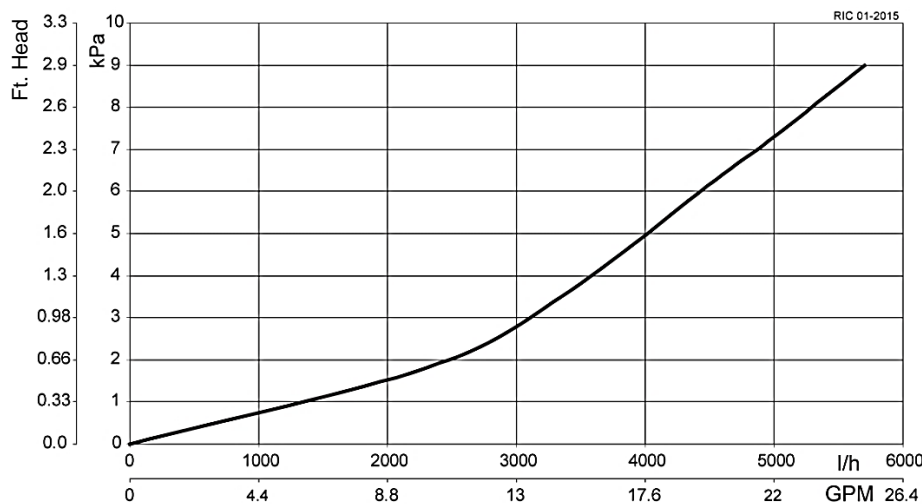
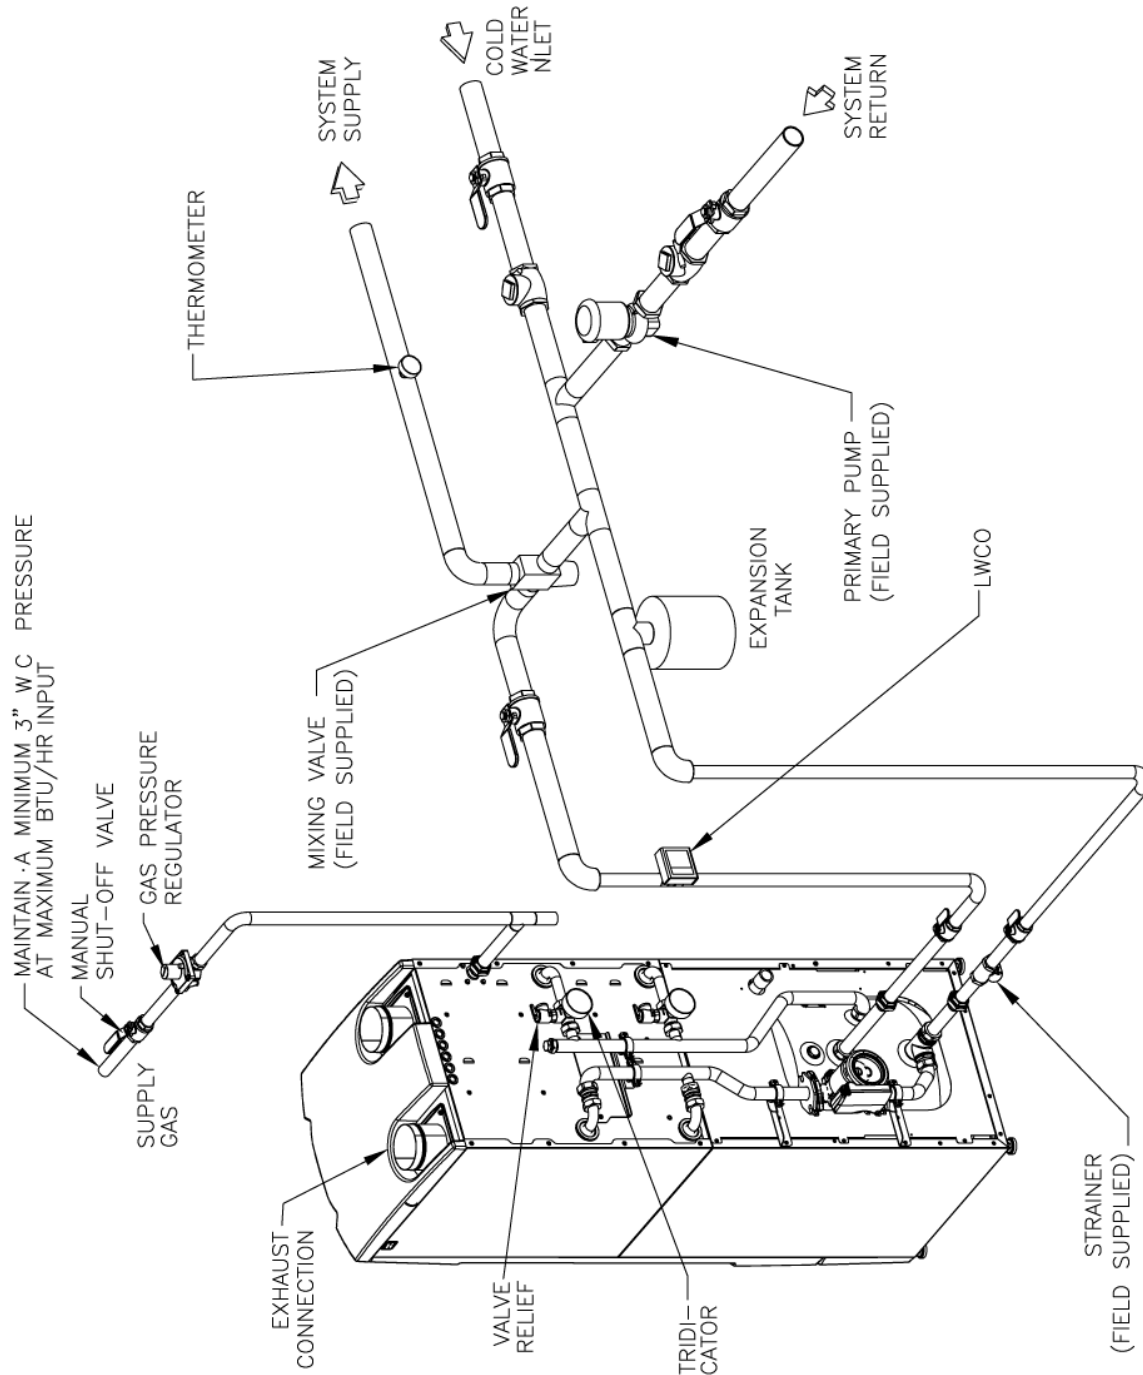

Figure 4-2: AMRI Series Water Side Head Pressure Loss Graph
Figure 4-5: AMRI - Single-Unit Installation Piping Example
Water heater system piping **MUST** be sized considering the pressure drops of the water heater (see figure 4-2), piping and storage tank.
Reducing the pipe size can restrict the flow rate through the water heater, causing poor system performance. Basic steps are listed below along with illustrations on Figures 4-5 and 4-7, which will guide you through the installation of the water heater piping.
- **Water heater isolation valves:** Field supplied. Install isolation valves as shown in Figures 4-5 and 4-7. Full port ball valves are required. Failure to use full port ball valves could result in a restricted flow rate through the water heater.
- **Anti-scald mixing valve:** Field supplied. Install an anti-scald mixing valve as shown on Figures 4-5 and 4-7. An Anti-scald mixing valve is recommended when storing domestic hot water above 115°F. An anti-scald mixing valve **MUST** always be installed on an AMR system.
- **Unions:** Field supplied. Install Unions as shown on Figures 4-5 and 4-7, recommended for unit serviceability.
A low water cutoff (LWCO) (Figure 4-2) is factory supplied and must be installed on the outlet piping of the boiler, and before any intervening valves, as shown in Figures 4-5 and 4-7. When installing such a device, you must consult and abide by all local codes and regulations in force.
Install an expansion tank. Ensure the expansion tank is properly sized for the boiler volume and the system volume, temperature and pressure. See figures 4-5 and 4-7 for suggested tank location.
The water resistance to size the recirculator pump to supply flow through the heating system at the AMR Integral unit’s connections is shown in graph form in Figure 4-2.
See Figure 4-5 for recommended piping for AM Series water heater *single unit* installations, and Figure 4-7 for *multiple unit* installations. Refer to section 4.3.4 to wire the water heater pump.